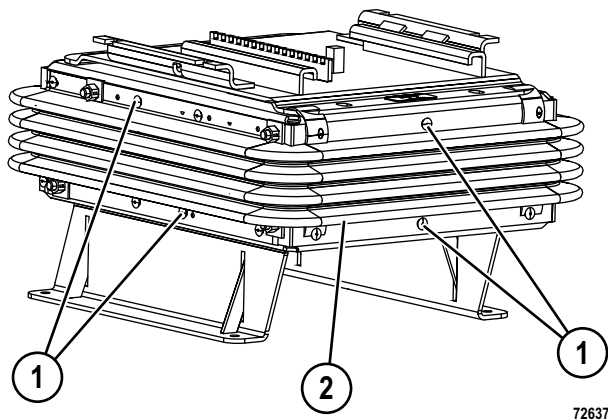

FIGURE 3-8.
2. Remove 28 plastic clips (1, Figure 3-8) from suspension boot (2), then remove the boot from the seat suspension.